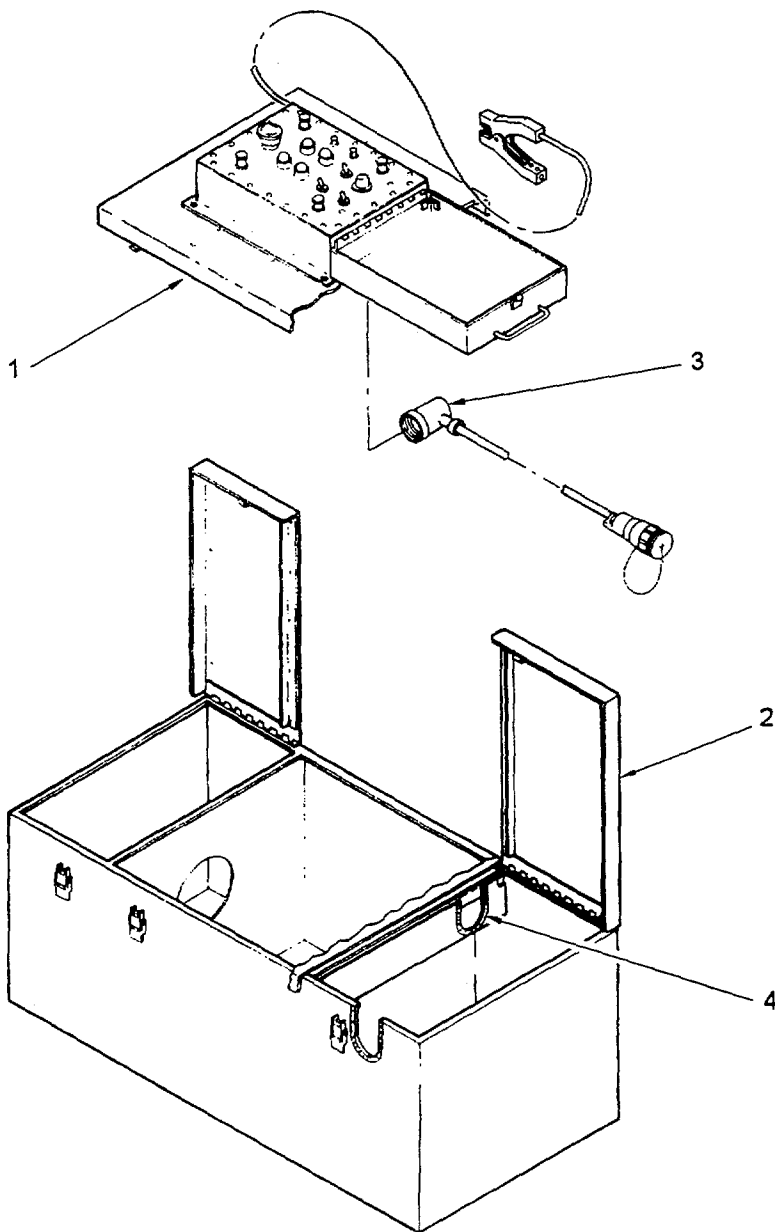

Figure 4-27. Control Cable W201 Replacement
- (1) At the accessory module, push battery connector through lower cut out in cable storage compartment (2) and install connector on battery. Coil remainder of cable in cable storage compartment (2).
- (2) Close and latch the center cover (1) and cable storage compartment cover (2).
4.15.4 Replace Control Cable (W201). (Refer to figure 4-27.)